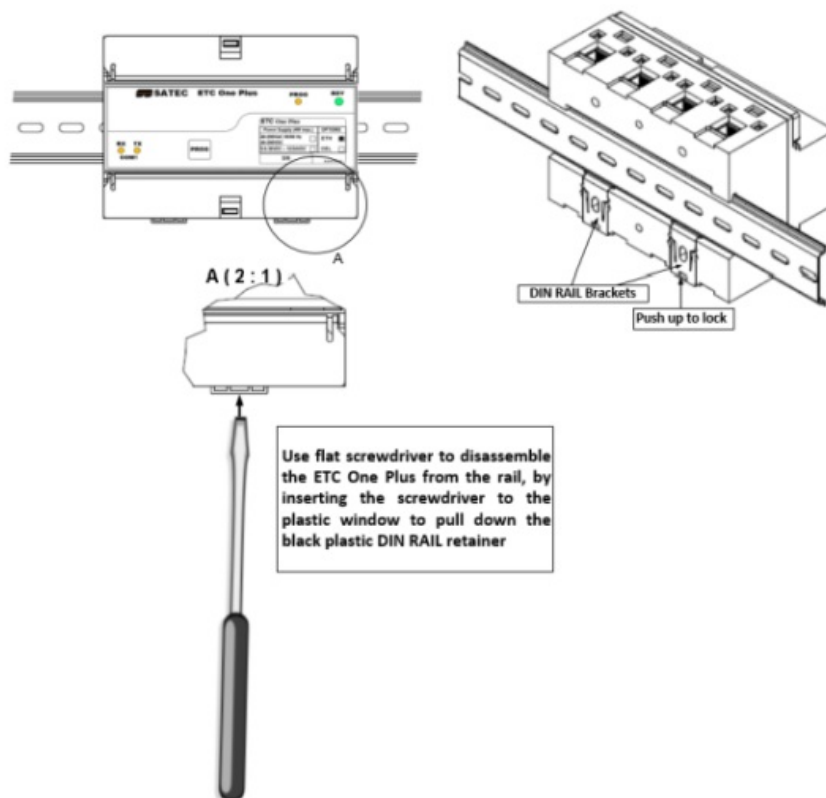

Figure 2-3 DIN Rail mounting
- The ETC One Plus can be mounted on a standard 35-mm DIN rail as shown in figure 2-3